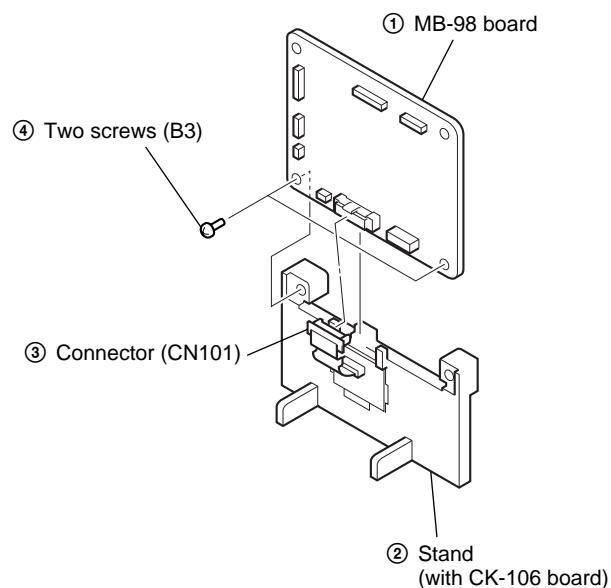

Fig. 2
- 3) Set the stand (with CK-106 board) as shown in Fig. 2.